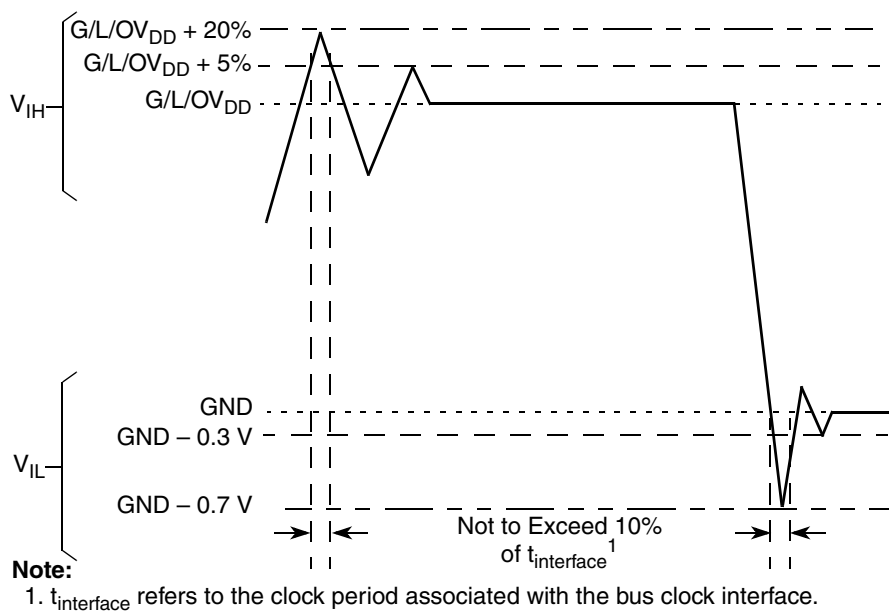

Figure 2. Overshoot/Undershoot Voltage for GV_{DD}/OV_{DD}/LV_{DD}
- ⁵ (M,L,O) V_{IN} and MV_{REF} may overshoot/undershoot to a voltage and for a maximum duration as shown in Figure 2.
Figure 2 shows the undershoot and overshoot voltages at the interfaces of the MPC8347EA.